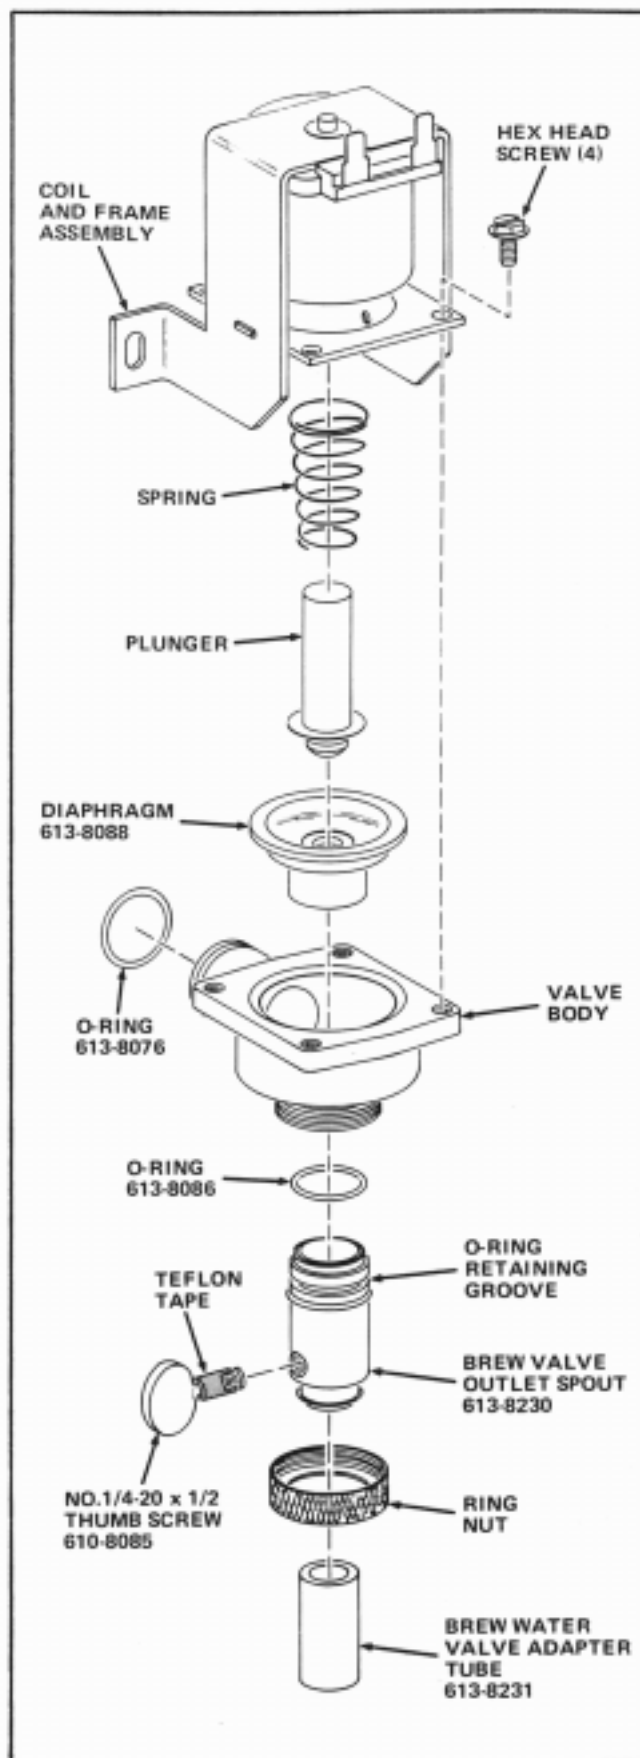

FIGURE 2
11. Remove the Diaphragm from the Brew Water Valve. See Figure 2.
1. Place the O-Ring, Part Number 613-8076, included with this Kit, into the retaining groove in the Valve Body. See Figure 2.
3. Position the Diaphragm and Plunger inside the Valve Body and place the Spring over the Plunger as shown in Figure 2.
5. Slide the Ring Nut onto the Brew Valve Outlet Spout, Part Number 613-8230, included with this Kit, as shown in Figure 2.